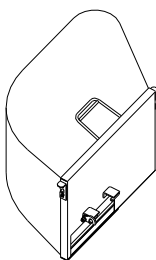

FIG 2
- Grass catcher assembly (WY32-NGC): 80L, see FIG 2